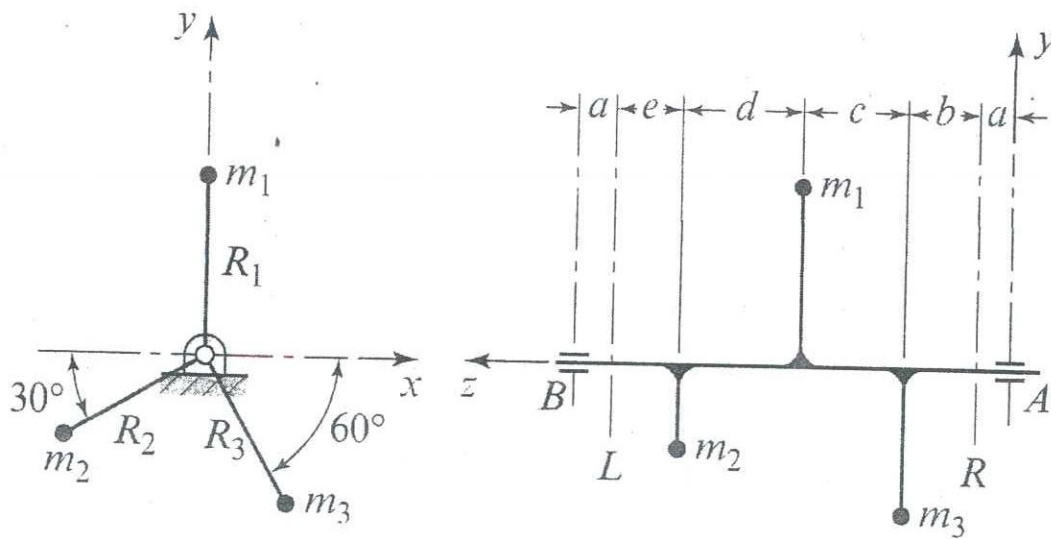

Figure Q4(c)
- c) The shaft shown in Figure Q4(c) is to be balanced by removing or adding masses in the two correction planes, L and R. Given that the three masses are $m_1 = 6 \text{ g}$, $m_2 = 7 \text{ g}$, and $m_3 = 5 \text{ g}$. The dimensions are $a = 25 \text{ mm}$, $b = 300 \text{ mm}$, $c = 600 \text{ mm}$, $d = 150 \text{ mm}$, $e = 75 \text{ mm}$, $R_1 = 125 \text{ mm}$, $R_2 = 150 \text{ mm}$, and $R_3 = 100 \text{ mm}$.